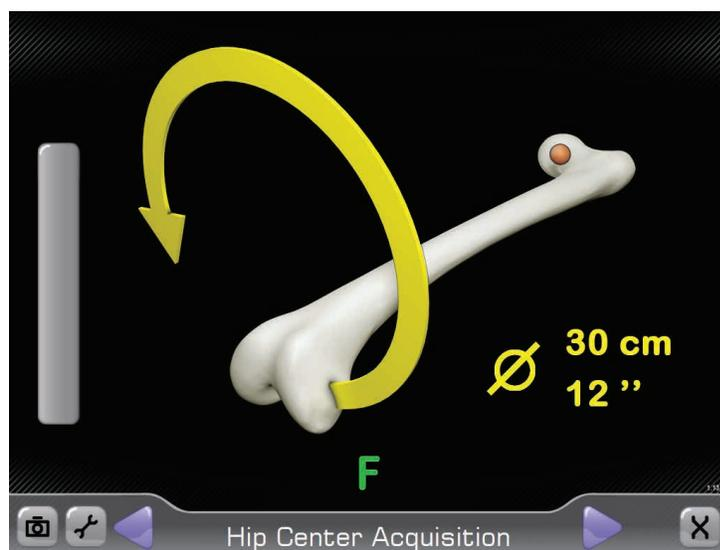

Figure 11
The *Hip Center Acquisition* screen is displayed (Figure 11). Press the forward button on the display unit or alternatively, press the forward button on the Probe Tracker (P) to initiate the acquisition process. Move the knee in a 12-inch diameter circular pattern as illustrated on the display.